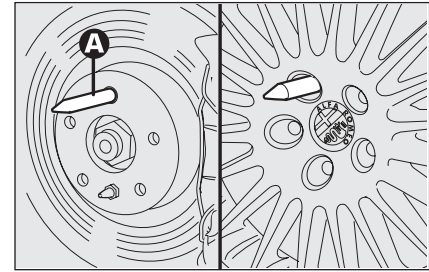

fig. 10
- tighten pin **A-fig. 10** in one of the holes of the wheel hub fastening bolts;
- loosen pin **A-fig. 10** and tighten the last fastening bolt;